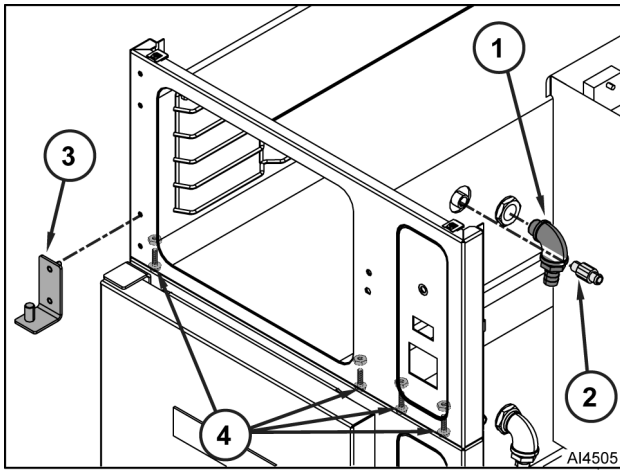

Fig. 44
5. Remove bolts (4, Fig. 44) and nuts that secure cooking compartment front panel to lower cooking compartment.
6. Remove lower hinge (3) from front panel.
7. Remove vacuum breaker (2).
9. Remove steam port inlet fitting (1).